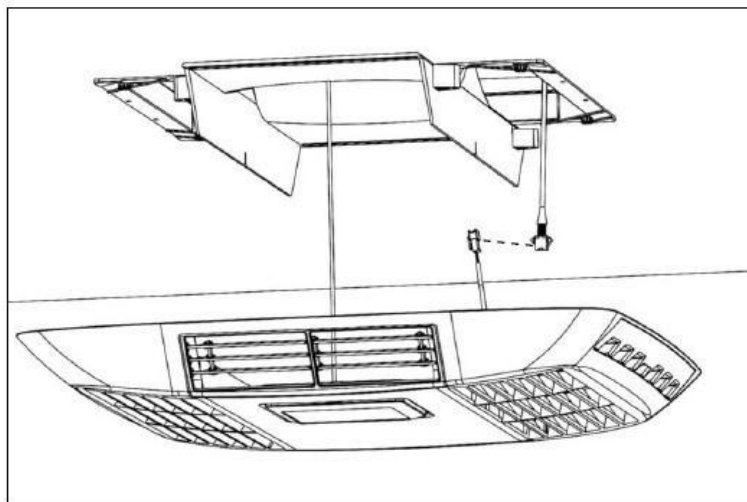

Fig 14: Attaching the suspension cord will allow two hands free to plug in the control cable and affix the plenum
- Connect the main cover of the plenum to the duct by attaching the blue suspension cord to the lug on the inside of the cover (Fig 13). Reach into the unit, grab the control cable plug and pull down to -This will allow you to use two hands to connect the control cable (see Fig 14).